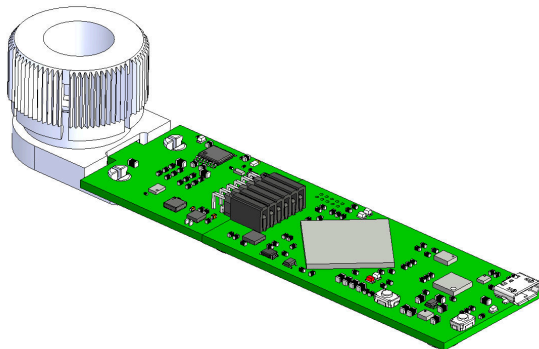

Figure 3-7. TMAG6180DEVM with Magnet Knob Attachment
- If the Rotate & Push module was purchased, connect the module to the EVM (see Figure 3-7).
- b. If the Rotate & Push module was purchased, connect the module to the EVM (see Figure 3-7).
- b. If the Rotate & Push module was purchased, connect the module the EVM (see Figure 3-7).
1. Connect the EVM to TI-SCB. If Rotate & Push Module purchased, mount onto the EVM as indicated in Figure 3-7. Otherwise rotate a diametric magnet centered over the TMAG6180D.